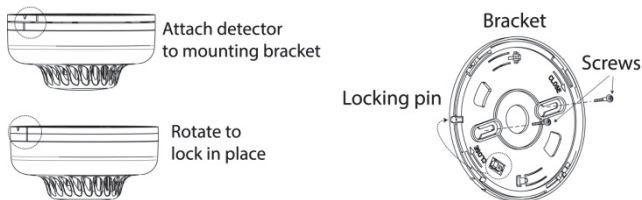

Figure 7: Smoke and heat detector installation
### To install the detector (see *Figures 7 & 8*)
2. Remove the locking pin securing the mounting bracket to the unit (see *Figure 7*).
6. Using screws (supplied) attach the bracket to the wall as shown in *Figure 7*.
Insert the locking pin in order to secure the mounting bracket to the detector (see Figure 7).